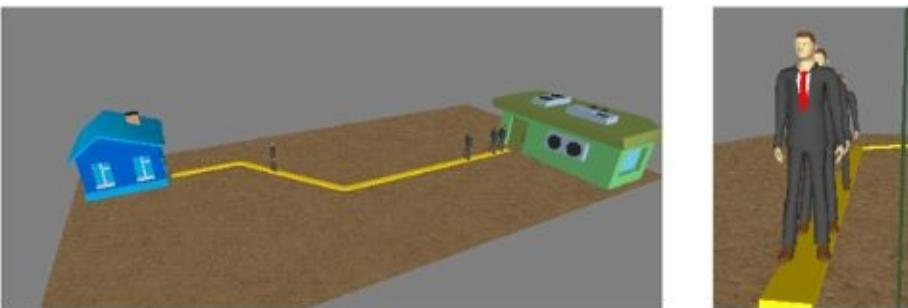

Figure 14.19 Multiple views of the 3D scene
7. Right-click the 3D window and choose **Copy camera location** from the context menu (see Figure 14.19).
properties (see Figure 14.19). The camera will jump to a new location, and its rotation angles will also change.